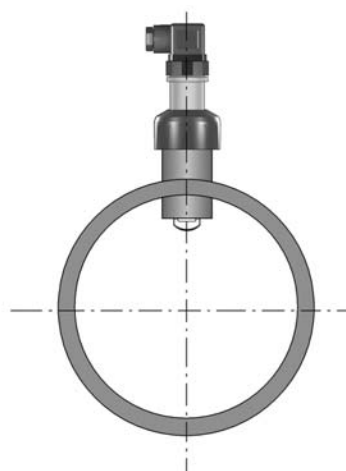

Fig. 2
- Fig.2: installation with no air bubbles present